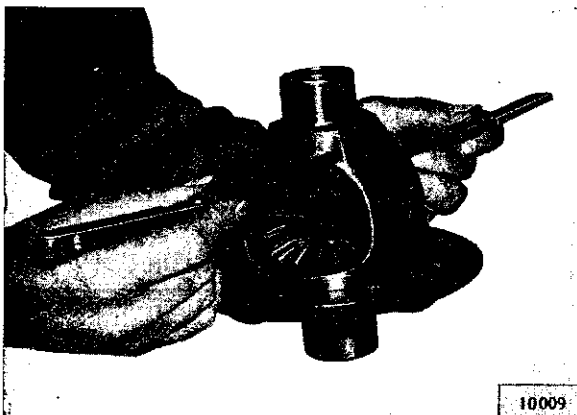

FIG. N-31—CHECKING SIDE GEAR CLEARANCE
- a. With the differential positioned as shown in Fig. N-31, tap the differential lightly on a flat surface so the differential gears settle into proper position.